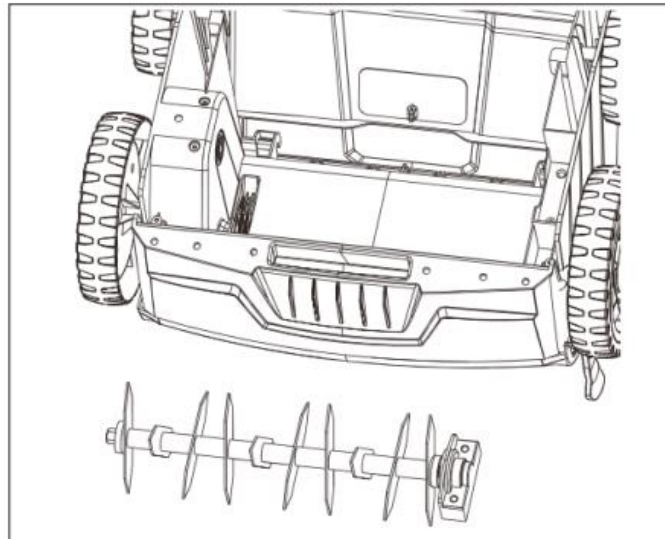

Fig. 12
3. Then, remove the scarification shaft (see Fig. 12).